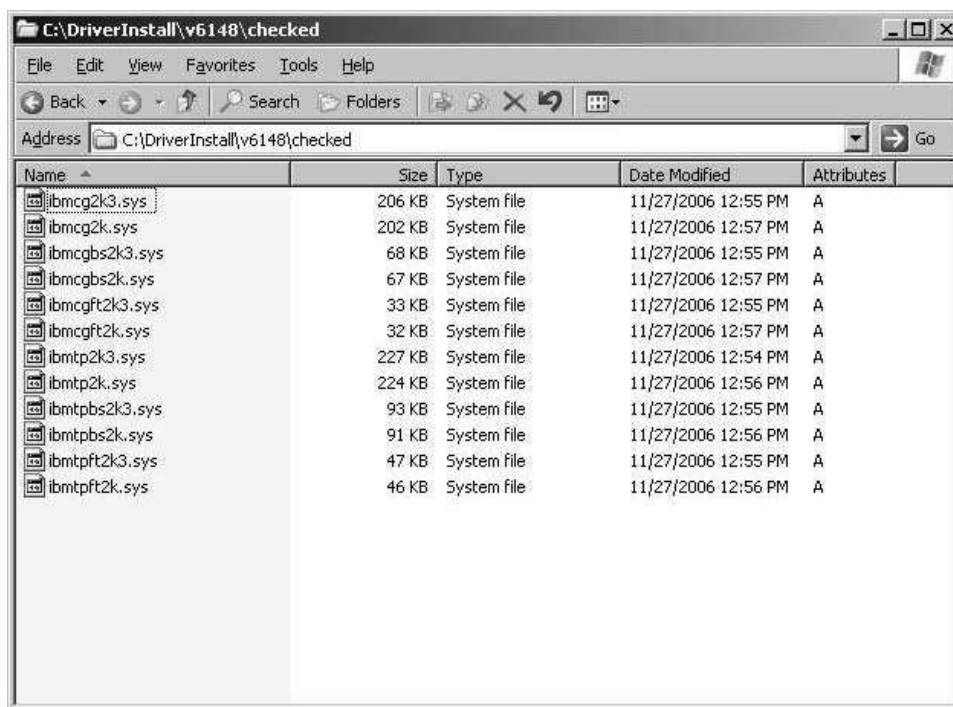

Figure 17. \checked folder
- *yyy* = 2k3 for Windows Server 2003. Refer to Figure 17